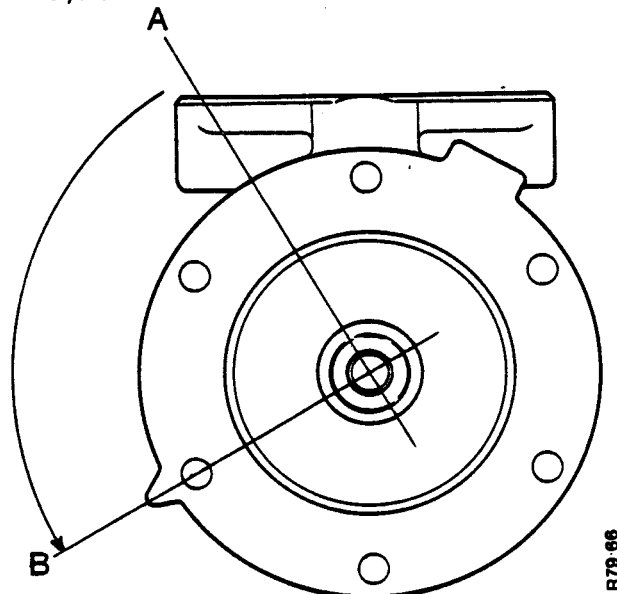

FIGURE 16 INSTALLING FEED PUMP DIAPHRAGM
6. Put the new diaphragm in the body with the tab in the position shown at A in Figure 16.
8. Turn the diaphragm counterclockwise until the tab in position B in Figure 16.